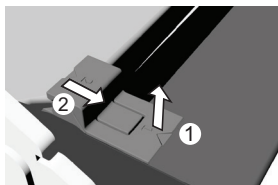

Figure 1
- Slightly lift the supports on the left and right side of the door (marking 1 on the support) and pull them away from the glass (marking 2 on the support) (see Figure 1). replacing the oven door).